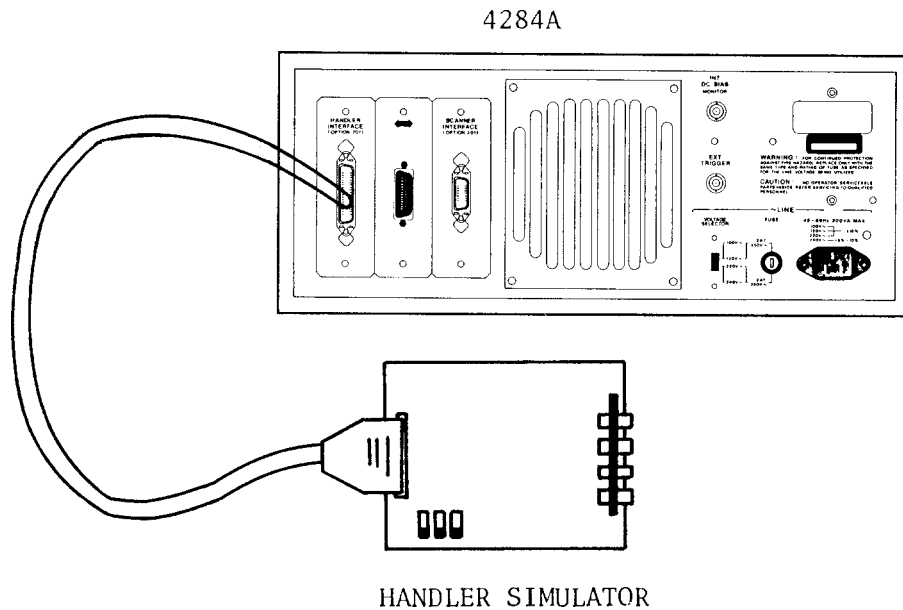

Figure 10-15. Handler Interface Function Test Set UP
17. Confirm that the LEDs on the handler simulator turn ON in accordance with the 4284A's output signals displayed on the LCD. The LEDs turns ON light in the sequence shown in Figure 10-15.